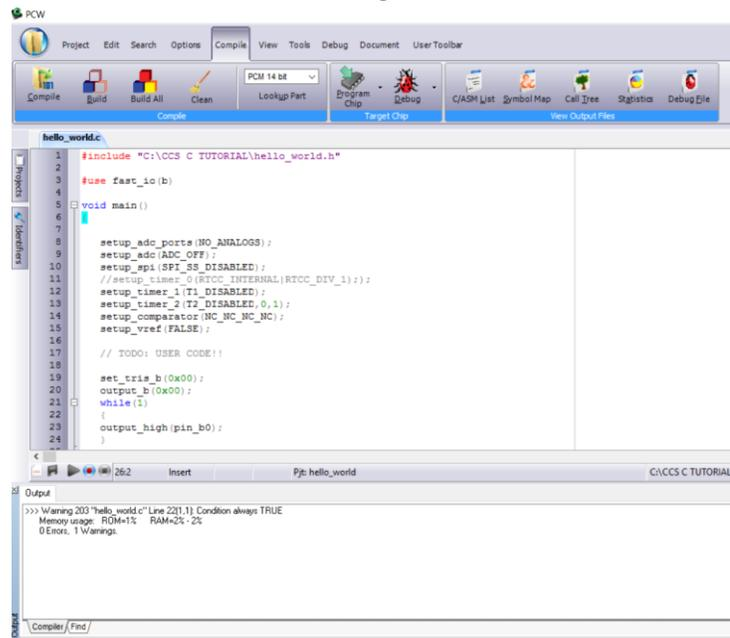

Figure-8
8) “Build” is completed and there is no error, Figure-8.